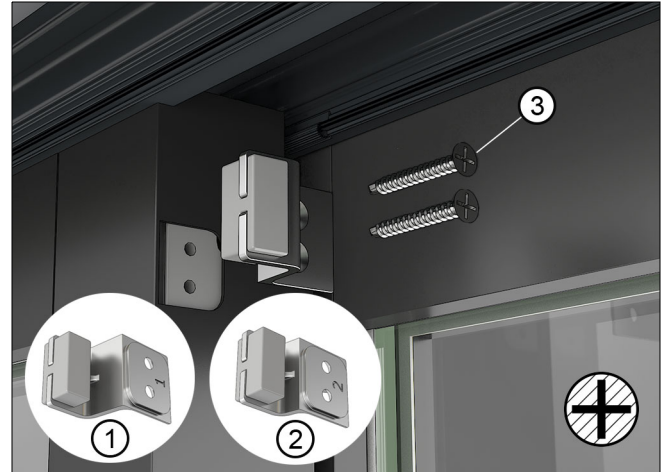

Figure 87 Top secondary panel bumper
11. On secondary panels, fasten panel bumpers to the interior meeting stile at the top and bottom with #10 x 1 1/2" Phillips head screws. See Figure 87.